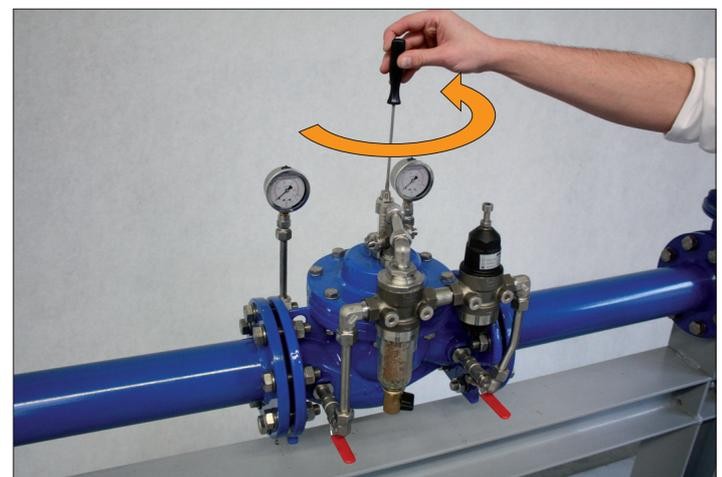

Figure 11: Opening the venting valve
8. When you fill the valve, air may be trapped in the upper diaphragm chamber. To ensure proper function of the valve, the venting valve must be slightly opened and remain open until a steady jet of water emerges (This step is not necessary with varieties with automatic venting) (see Figure 11).